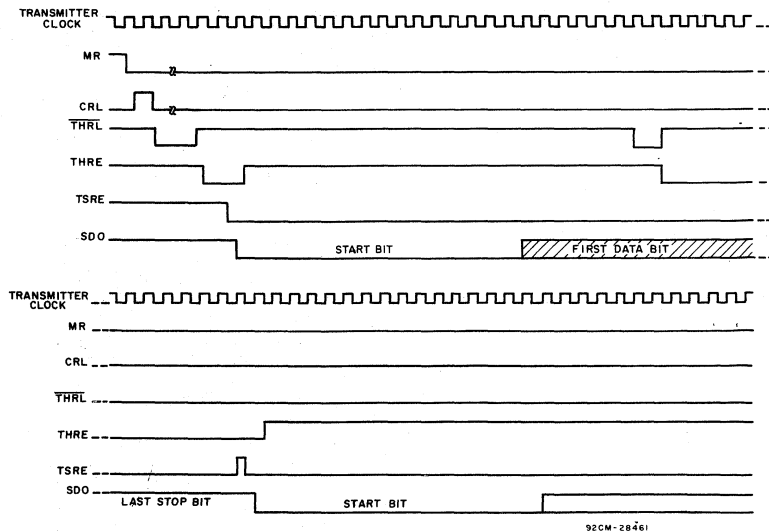

Fig. 4 - Transmitter timing diagram.
For the transmitter timing diagram refer to Fig. 4. At the beginning of a typical transmitting sequence the Transmitter Holding Register is empty (THRE is HIGH). A character is transferred from the transmitter bus to the Transmitter Holding Register by applying
Before beginning to transmit, the TRANSMIT REQUEST (TR) bit in the Control Register (see bit assignment, page 10) must be set. This setting is done by executing the same operation used to load the Control Register except that the TR bit must be set (TR=1) in the byte transmitted via the bus. When TR has been set, a TRANSMITTER HOLDING REGISTER EMPTY (THRE) interrupt will occur, signalling the microprocessor that the Transmitter Holding Register is empty and may be loaded. Setting TR also causes assertion of a low-level on the REQUEST TO SEND (RTS) output to the peripheral. The Transmitter Holding Register is loaded from the bus by TPB during execution of an output instruction. The CDP1854 is selected by CS1 · CS2 · CS3 = 1, and the Holding Register is selected by RSEL = low and MRD = low. When the CLEAR TO SEND (CTS) input, which can be connected to a peripheral device output, goes low, the Transmitter Shift Register will be loaded from the Transmitter Holding Register and data transmission will begin. If CTS is always low, the Transmitter Shift Register will be loaded on the first high-to-low edge of the clock which occurs at least 1/2 clock period after the trailing edge of TPB and transmission of a start bit will occur 1/2 clock period later (see Fig. 4). Parity (if programmed) and stop bit(s) will be transmitted following the last data bit.